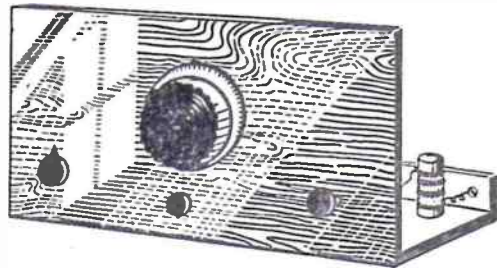

Fig. 3—Details of the valve holder and choke
As the chassis type valve holder is easiest to obtain, this has been shown, but a baseboard type holder would do equally well. The chassis holder will need mounting on spacing pieces or blocks, as shown in Fig. 3, so that the sockets are slightly above the baseboard. Whatever type of holder is employed, remember that it is necessary that wiring to the sockets or tags be correctly carried out. In the diagrams (G) indicates Grid, (P) indicates Plate, and (F) indicates Filament connections to the valve. Some manufacturers place the fixing holes opposite the filament sockets, not opposite grid and plate sockets, as in Fig. 2. The plate socket is always that standing a little further from the other sockets.
The choke prevents radio-frequency signals passing into the headphones, so that they return through the reaction winding, thereby building up the strength of signals in the tuning coil. It can be made by gluing five cardboard washers on a tube $\frac{1}{2}$ in. in diameter, and winding the spaces full with thin insulated wire, as seen in Fig. 3. The wire should be about 36 to 42 S.W.G. in order to get several hundred turns in each section. All turns are in the same direction, and the ends are taken to the socket and terminal shown. The choke is pushed on a cork or disc screwed to the baseboard.